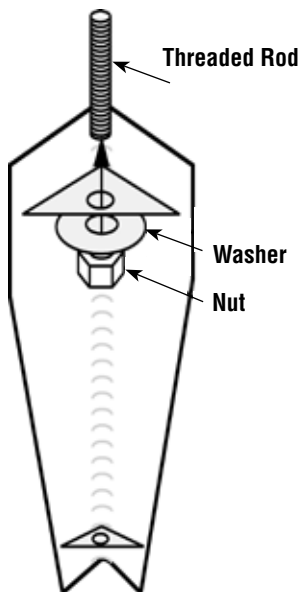

Figure 1
- Mount all four legs as shown in **Figure 1**.